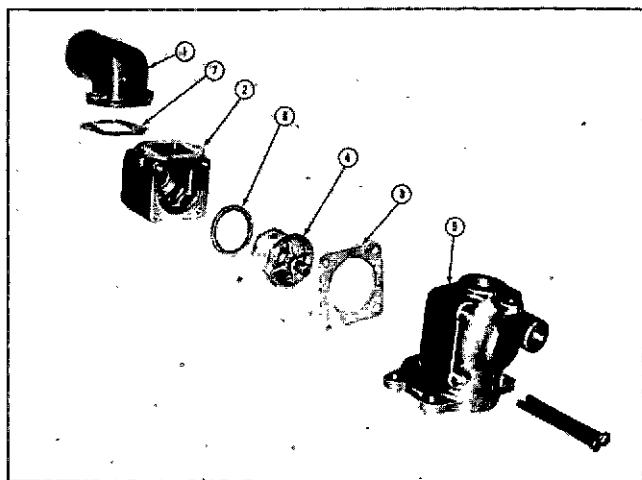

Fig. 8-3-1, V40814. Thermostat housing and seal—exploded view
1. Remove mounting capscrews from water outlet connection (1, Fig. 8-3-1), discard gasket.
2. Remove capscrews from thermostat cover (5); discard gasket (3).
3. Remove thermostat (4).
4. Remove thermostat seal (6) from thermostat housing.
1. Use ST-953 Seal Mandrel and install new thermostat housing seal (6, Fig. 8-3-1) to insure proper thermostat operation.
2. Using new gasket (3), install new or tested thermostat (4) in thermostat housing (2) with vent hole at top. Failure to do so may result in air lock and insufficient coolant circulation.
3. Install thermostat cover (5), capscrews and lockwashers.